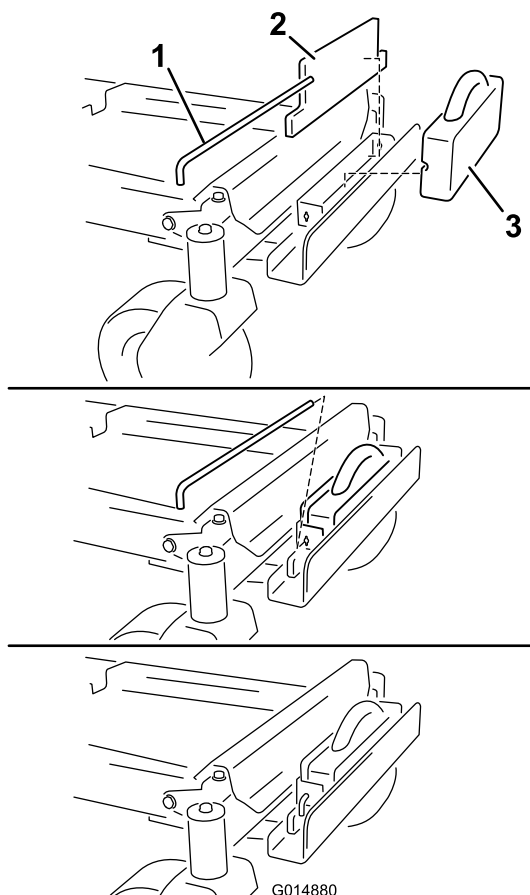

Figure 9
6. Install a flat weight to the holding bracket and move it rearward, flush with the bracket (Figure 9).
7. Install a suitcase weight in front of the flat weight (Figure 9). The groove in the suitcase weight should be facing rearward.
8. Secure the weights to the bracket with a keyed cross bar (Figure 9). Install the bar and rotate it 90 degrees downward to lock it in place.